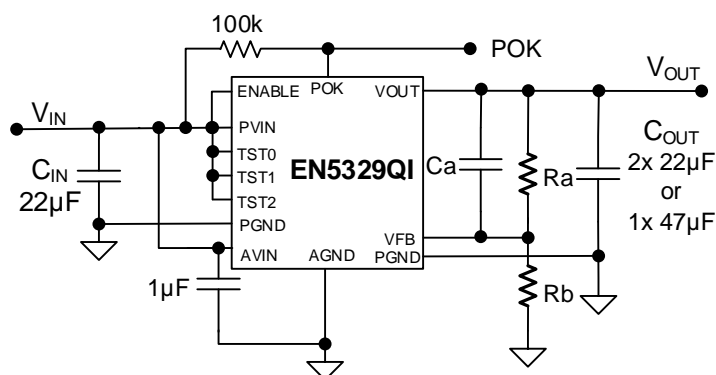

Figure 6: Typical Application Circuit
**Recommendation 8:** Keep  $R_A$ ,  $C_A$ ,  $R_B$  close to the VFB pin (See Figures 6). The VFB pin is a high-impedance, sensitive node. Keep the trace to this pin as short as possible. Whenever possible, connect  $R_B$  directly to the AGND pin instead of going through the GND plane.